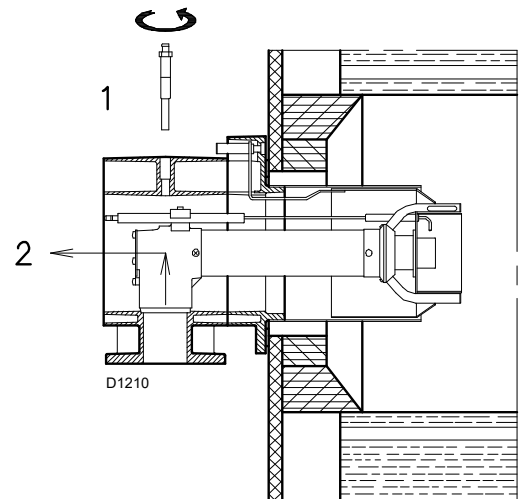

Fig. 12
- remove the screw 1)(Fig. 12);
- take out the inner part 2)(Fig. 12) of the head and then calibrate them.
At this point of the installation, the combustion head is fixed to the boiler as shown in Fig. 12. It is therefore especially easy to adjust, and this adjustment depends only on the maximum output of the burner.